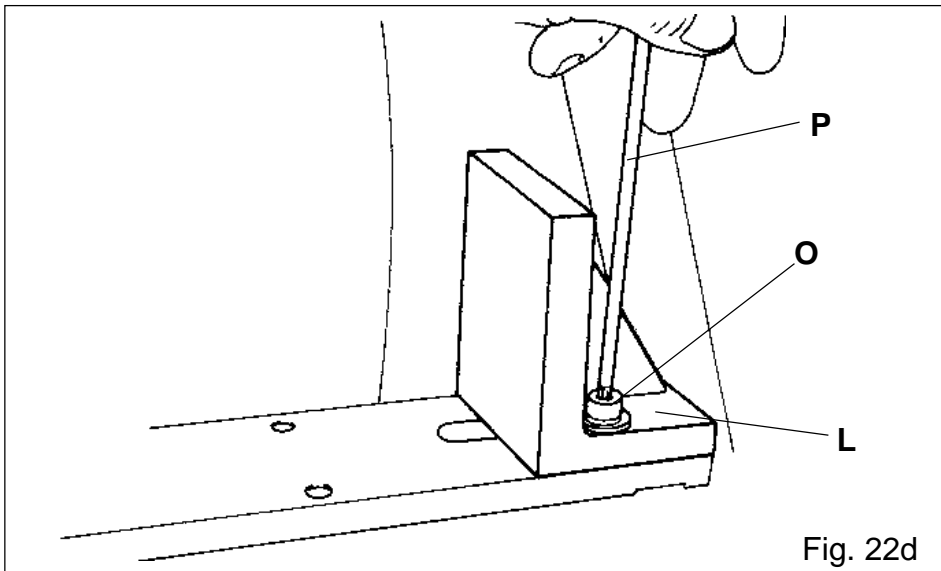
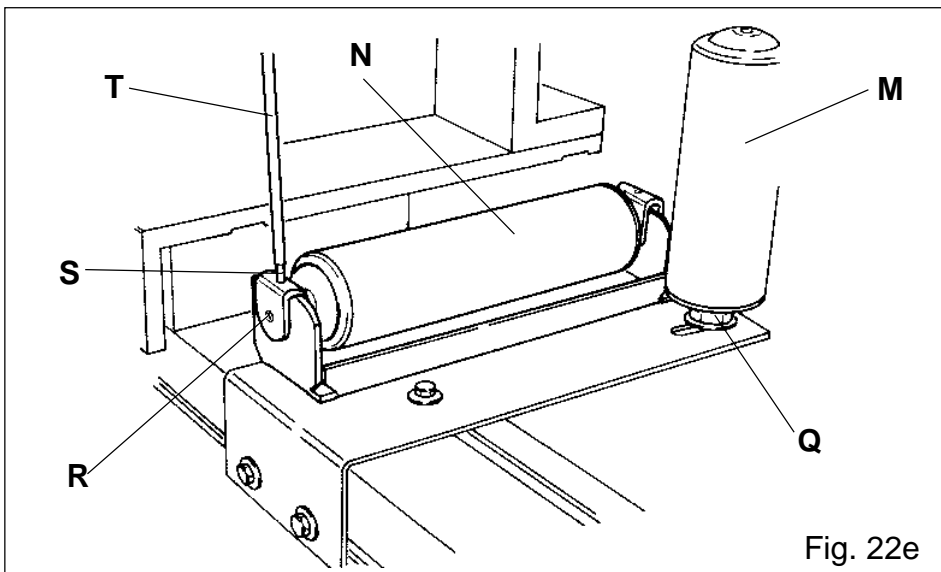

Fig. 22d
Fig. 22e
- 5° - Align the fence L (fig.22d) and the vertical rollers M (fig.22e) to the front plan profile support of the mobile head, checking through a precision square. If not aligned, operate as follows:
- Loosen screw O (fig.22d) with spanner P (fig.22d)
- Move forward or backward the fence L (fig.22d) until it is perfectly aligned
- Block the screw O (fig.22d) with the appropriate spanner.
- Loosen nut Q (fig.22e) of the roller M (fig.22e) with the appropriate spanner.
- Move forward or backward the roller M (fig.22e) until its perfect alignment.
- Block nut Q (fig.22e) with its spanners.
- 6° - Align the horizontal rollers N (fig.22e) to the support profile of the mobile head, checking through a precision square. If not aligned, operate as follows:
- Loosen grains R (fig.22e) with the appropriate spanners.
- Turn the grain S (fig.22e) with the appropriate spanner T (fig.22e) to clockwise direction in order to lift the roller, to anticlockwise direction to lower the roller.
- Block the grains R (fig.22e) with the appropriate spanner.